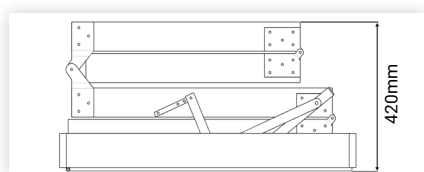

figure 2
- The area for the opening must be clear of wiring, plumbing and structural members such as beams and trusses with a minimum clear height above the ceiling of 420mm for M25 (figure 2).